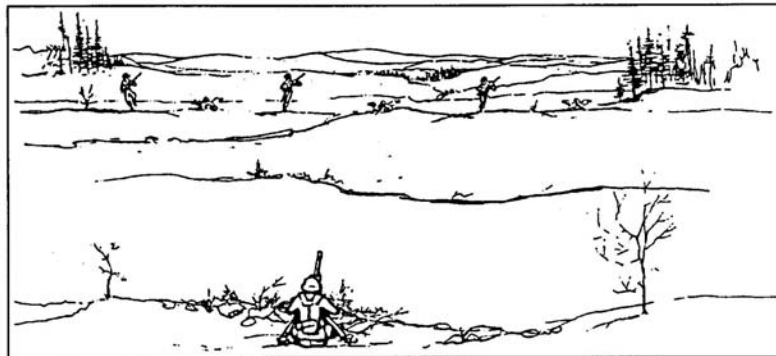

Figure 071-030-0004-8. Linear target
(3) Linear target with depth. Initially aim at the near flank with range set to the midpoint of the target unless another portion of the target is more critical or presents a greater threat. Fire on the near flank, then traverse and search back and forth, covering the entire target (figure 071-030-0004-9).